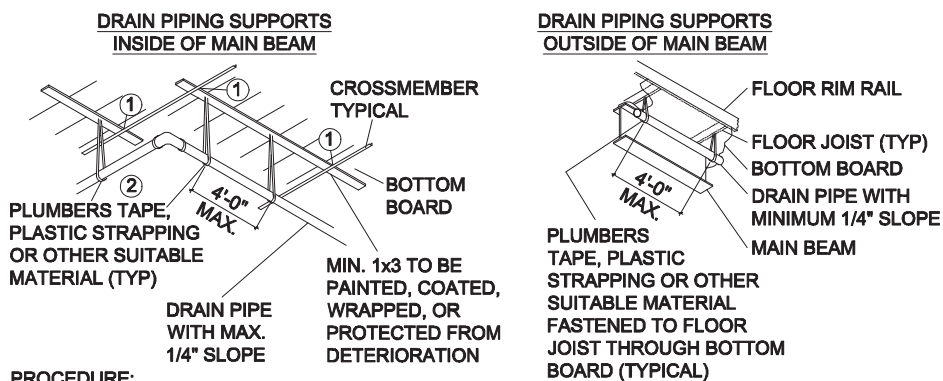

Figure 50. DWV pipe support options
5. **Install supports.** Install permanent drain line supports at a distance of four feet o.c. or less (see Figure 50). Alternate DWV pipe support may be used if approved by the local authority having jurisdiction.